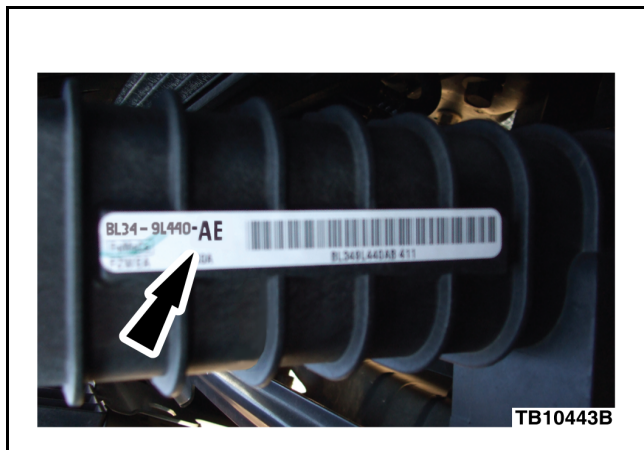

Figure 2 - Article 13-8-1
4. Is vehicle equipped with latest level charge air cooler, engineering part number BL34-9L440-AE? (Figure 2)